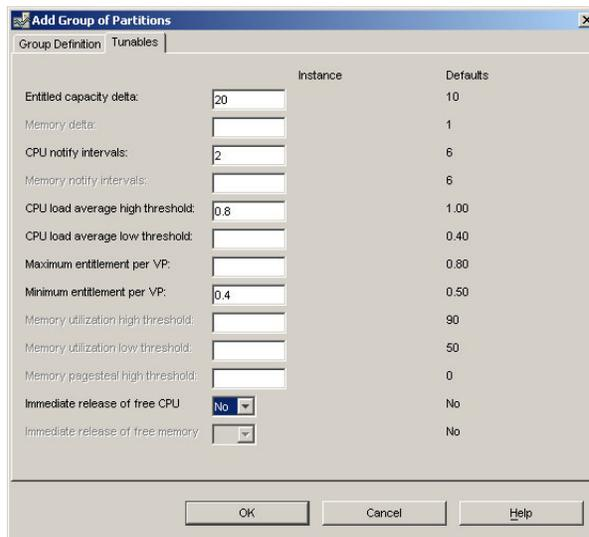

Figure 6-10 PLM Wizard Add Group of Partitions tunables window
6. In our example, there are just two partitions, and we are going to set the same tunables for each partition, so we use group tunables. Click the **Tunables** tab and set the default policy values for all partitions in the group, which brings up the window shown in Figure 6-10.